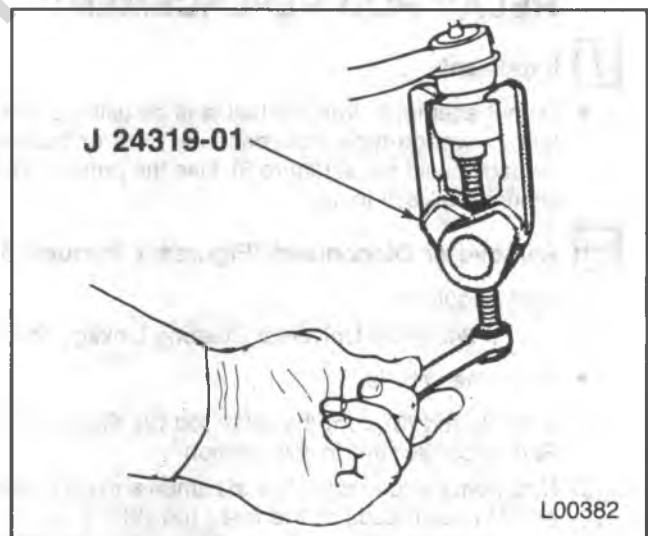

Figure 7 — Separating Steering Linkage
- Idler arm (1) from the relay rod (2). Use J 24319-01 (figure 7).
- 1. Inner tie rod (3) from the relay rod (2). Refer to "Tie Rod Replacement" in this section.
- 2. Nuts from the idler arm (1) and pitman arm (5) or relay arm (11) ball studs at the relay rod (2).
- 3. Relay rod (2) from the idler arm (1). Use J 24319-01 (figure 7).
- 4. Relay rod (2) from the pitman arm (5) or relay arm (11). Use J 24319-01 (figure 7).
- 2. Relay rod (2) or connecting rod (8) from the pitman arm (5). Use J 24319-01 (figure 7).